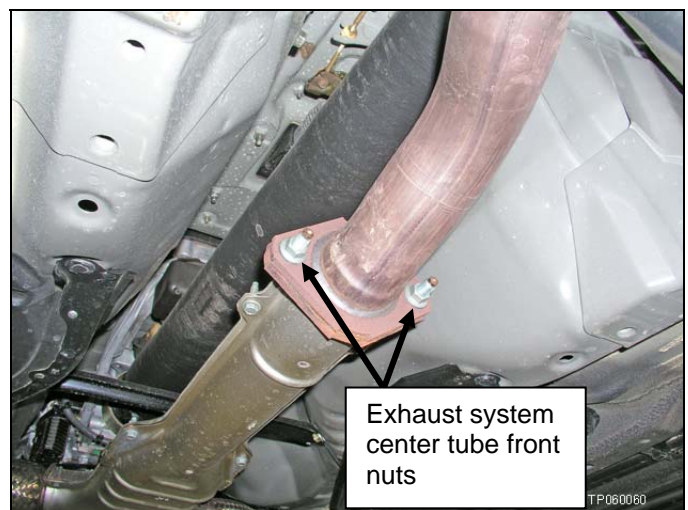

Figure 11
14. Remove the exhaust system center tube front nuts (see Figure 11).